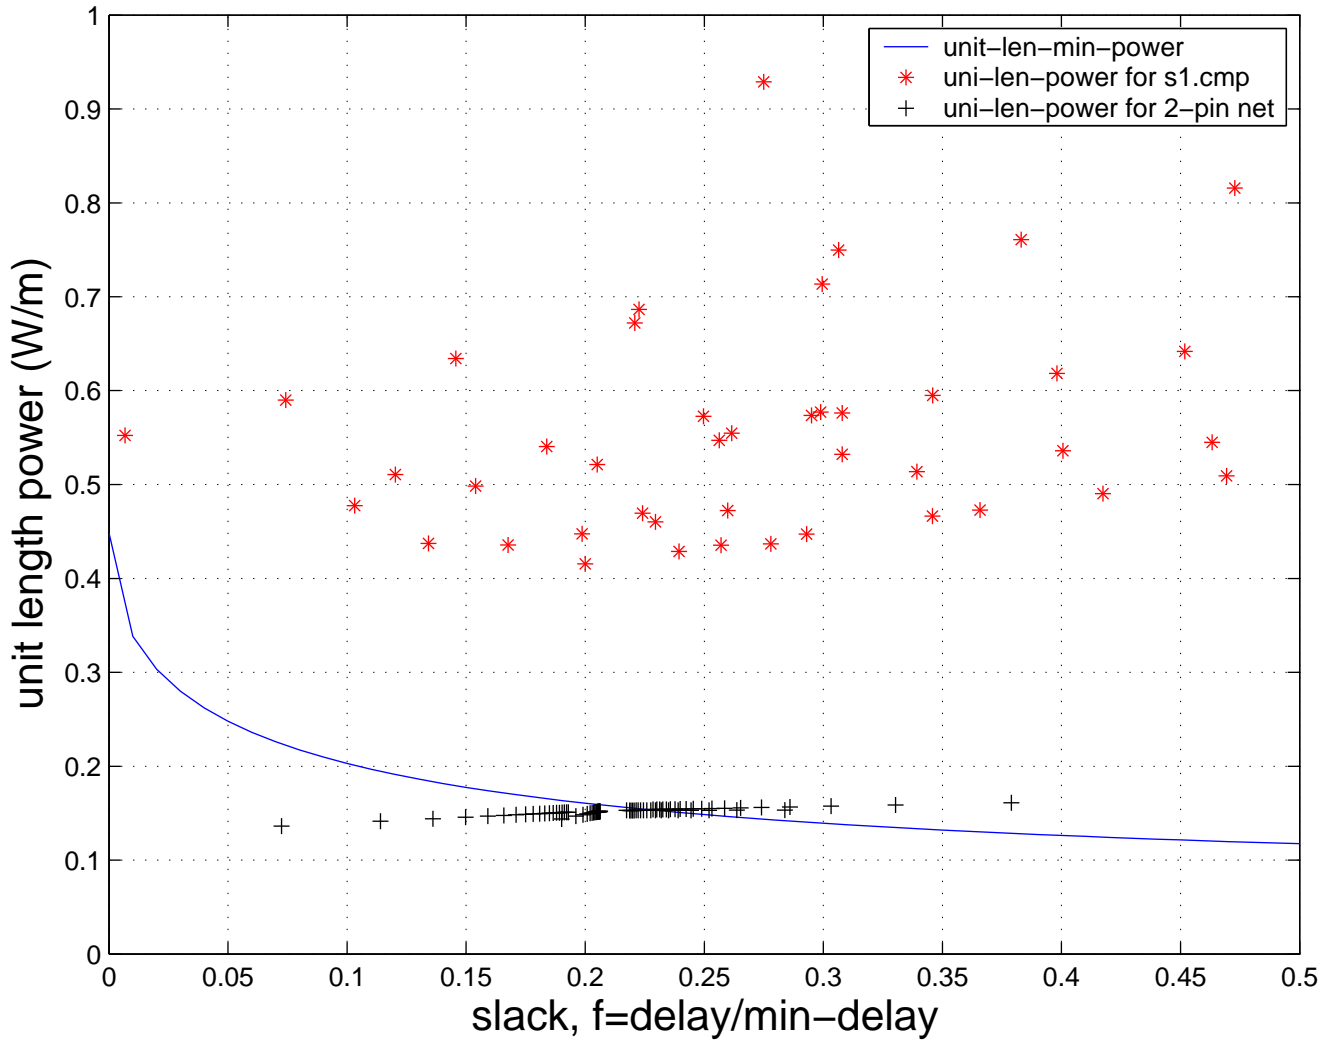

Figure 1: power-slack curves
Finally, I drew power-slack curves for 2-pin, s1.cmp and prediction tables, respectively. The results are shown in Fig.1.
There are two observations based on Fig.1.
- (b) One thing Cynthia noticed in Fig.1 for the unit-length-power for 2-pin net is that the unit length power is almost the same across all delay slacks or even slightly increasing as the delay slack gets larger. Based on the formula, the unit length power would be larger with smaller delay slack and then as the delay slack increases, the unit length power would decrease. This observation seem not correspond to my other cases. This might be something to look into as well.